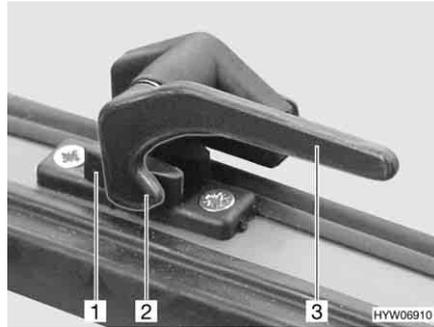

Fig. 72 Catch lever in "closed" position
- Turn all catch levers (Fig. 72,3) a quarter turn towards the centre of the skylight.
- Turn all catch levers (Fig. 72,3) a quarter turn towards the frame. The locking catch (Fig. 72,2) is located on the inside of the skylight lock (Fig. 72,1).
- "Firmly closed" (Fig. 72)